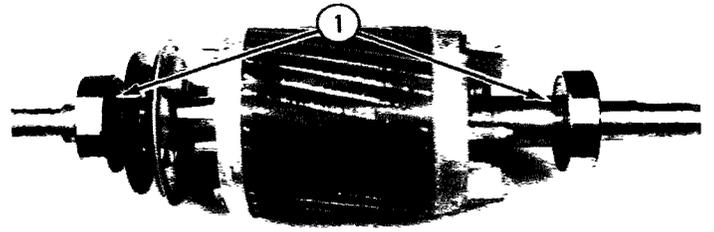

Fig. 2-15
- (8) Use a bearing puller and remove both bearings from the rotor (1, Fig. 2-15).